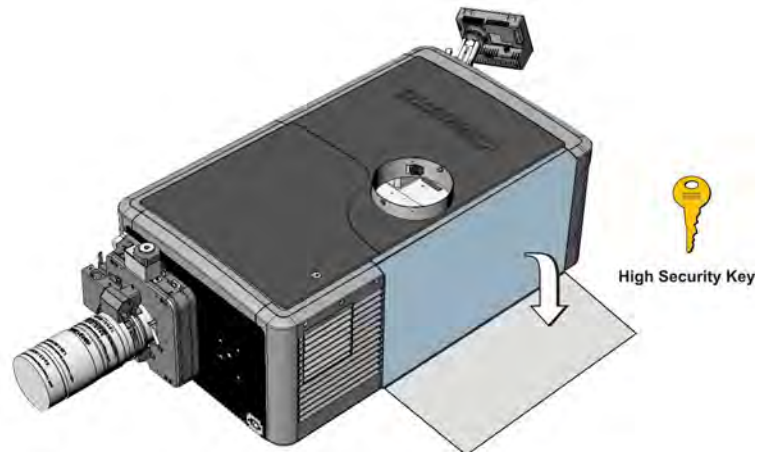

Figure 5-8 Open Lamp Door
1. Unlock and open the lamp door. **(Figure 5-8)**